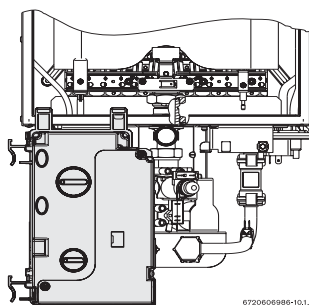

Fig. 2 Control box – gas adjustment position
- Once the control box is removed, place it as in Fig. 2.